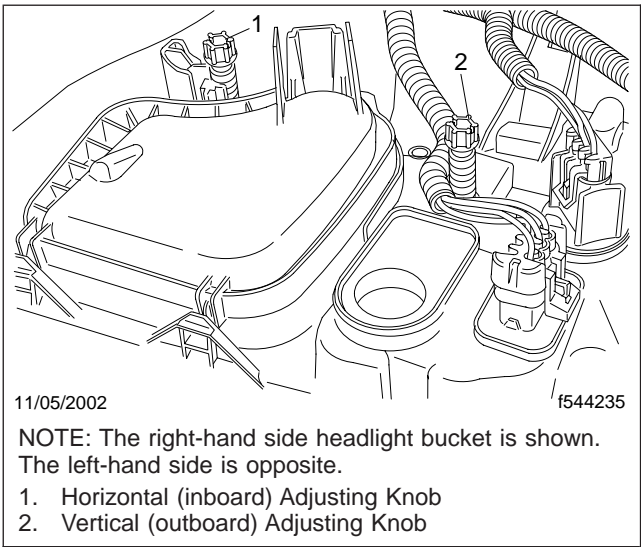

Fig. 14.4, Headlight Adjusting Knobs
1. Lift the flap over the rear end of the headlight bucket to expose the two plastic adjusting knobs on each headlight. See Fig. 14.4.